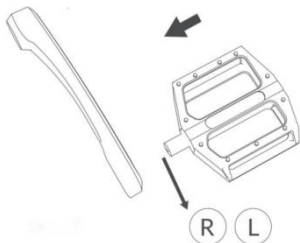
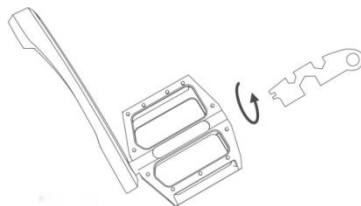

Figure 2-1-8
Figure 2-1-9
2.8. Assemble the pedal plate: Take out of the left and right pedal plate, "L" is for left side and "R" is for the right side (Figure 2-1-8) , , put the pedal plate on the crank, fasten it by using the open spanner (Figure 2-1-9) .